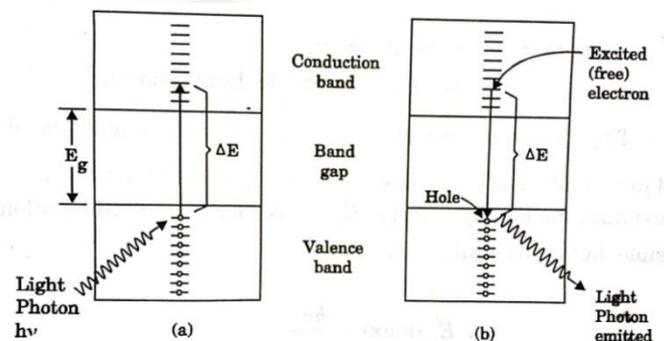

Fig. 4.3 (a) Electron excitation due to absorption of photon of energy  $\Delta E$  in insulators
- When the excited electron is deexcited or coming back to old position, it emits a light photon as in fig. 4.3 (b).